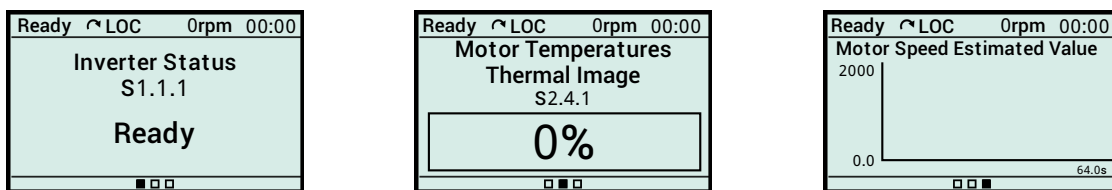

Figure 8.13: Visualization in (a) text, (b) bar and (c) graphic.
- Full screen:** It covers an entire main screen and allows the display of reading variables in **text, bar or graphic** format. The Figure 8.13 shows an example with the 3 formats.